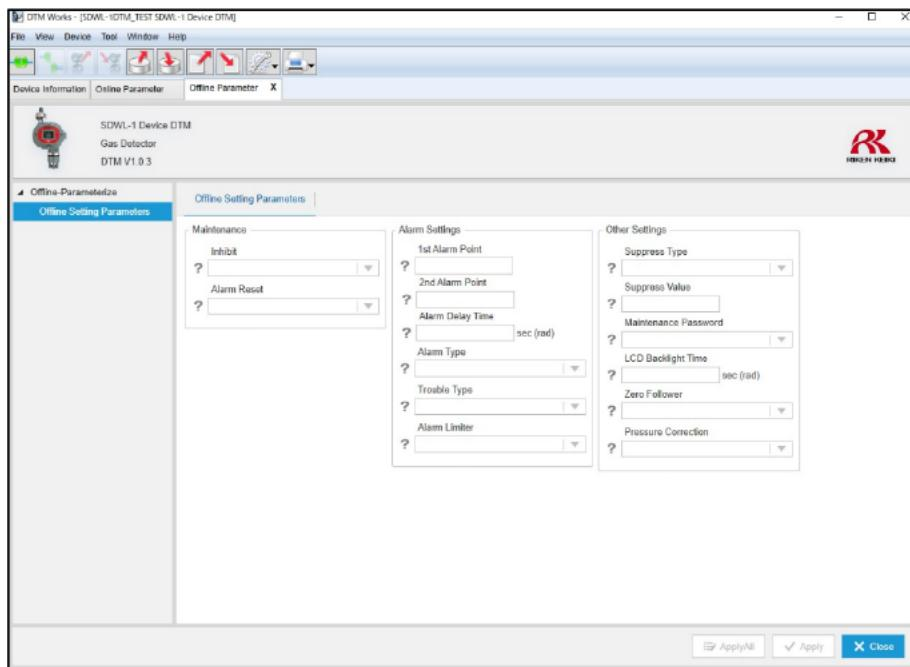

Figure 5-17 Offline Setting Parameters window
- ③ The window shown in Figure 5-17 below is displayed to allow offline parameter configuration.